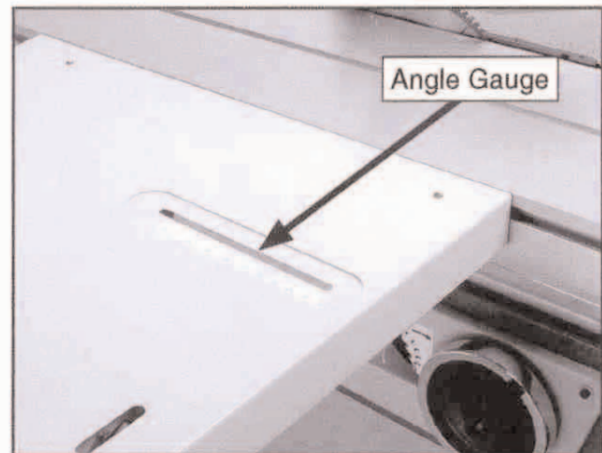

**Figure 62.** Fence set-up for angled cuts.
2. Install the fence as shown in **Figures 62 & 63** for angled cuts.